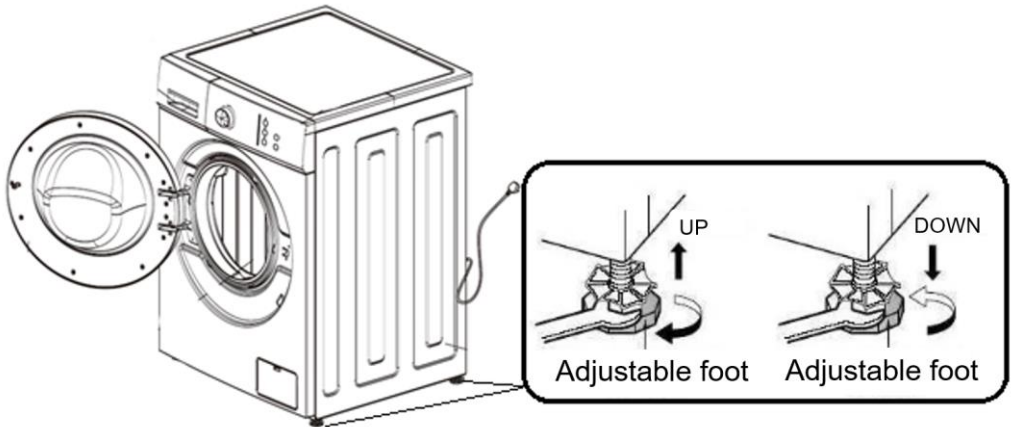

Fig. 10
- Adjustment of the adjustable feet. Adjust the adjustable feet so that the washing machine stands horizontally and firmly on the floor surface. After adjustment, tighten the lock nut securely (see Figure 10). Do not place the washing machine on a platform that is above floor level to prevent the machine from accidentally falling.